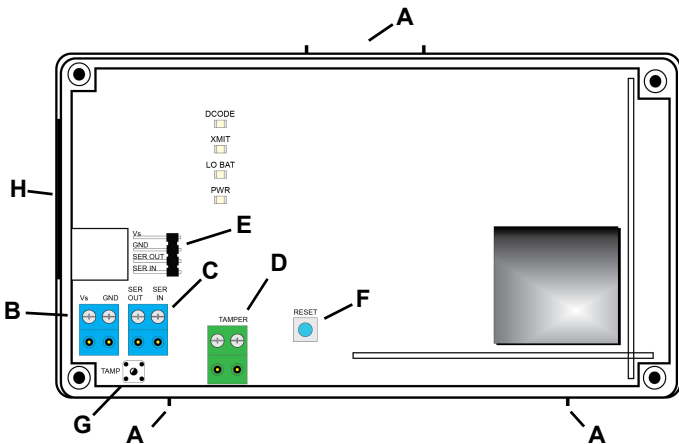

Figure 3 EN6040-T network coordinator internal components
1. Use a small screwdriver to press the top housing release tab and separate the housing (Figure 3).
4. If an external tamper switch is needed, connect a cable to the tamper terminal (Figure 3). Tamper cabling should meet the following specifications:
5. Route the cabling through the side cabling knockout (Figure 3).